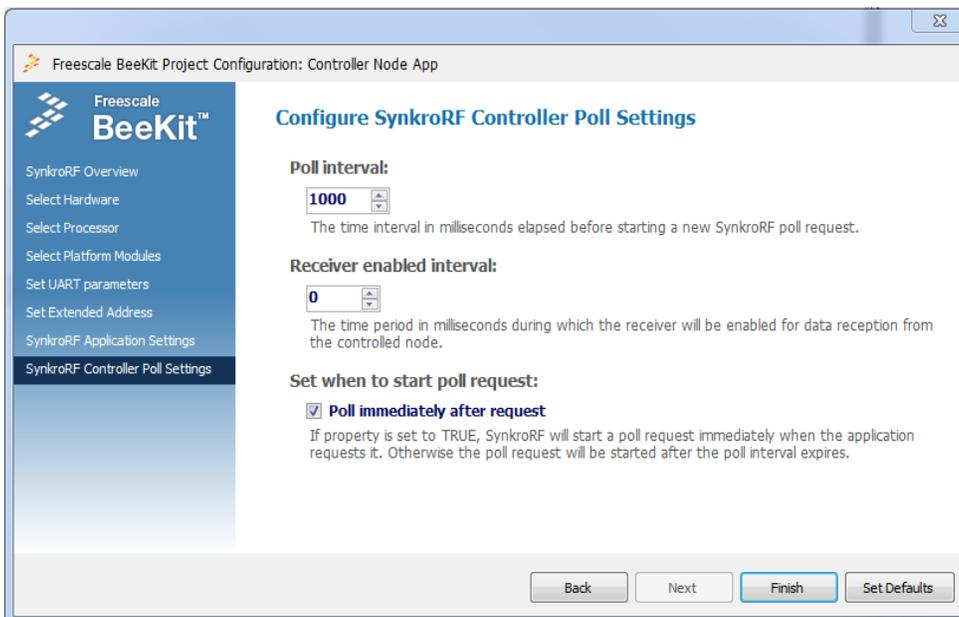

Figure 2-10. SynkroRF Controller Poll Settings page
11. Click Next to go to the SynkroRF Controller Poll Settings configuration wizard page shown in Figure 2-10.